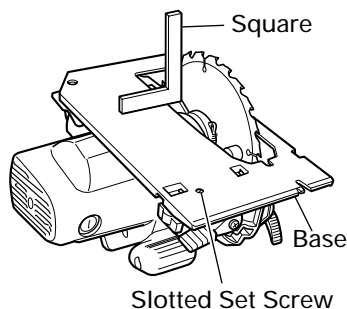

Fig. 21
- (1) Turn the base face up (Fig. 21) and loosen the lever (A).
- (2) Apply a square to the base and the saw blade and, turning the slotted set screw with a slotted-head screwdriver, shift the position of the base to produce the desired right angle.